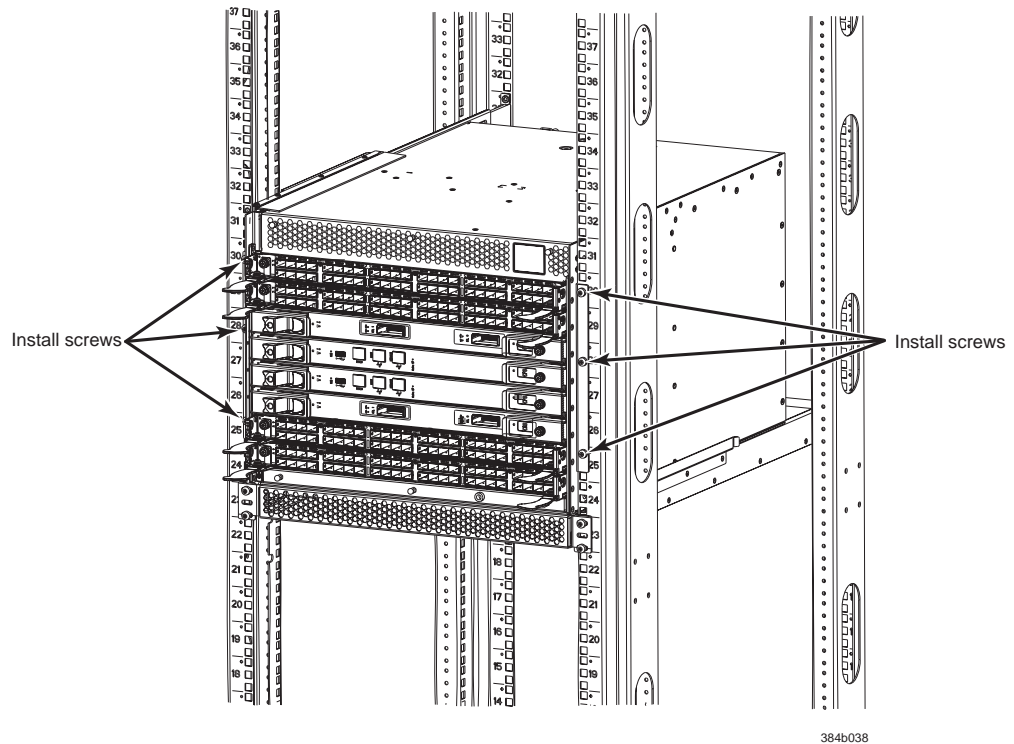

Figure 14. Location of screws to attach the chassis to the cabinet rails
13. The chassis will be secured to the cabinet with six 10-32 screws with washers (see Figure 14 on page 27). Four of these screws will also be used to attach the cable management finger assemblies. Do not install the screws until you determine the position of the cable management fingers.